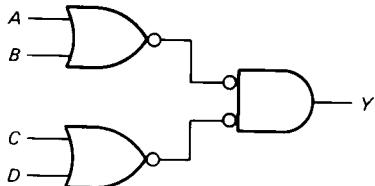

Fig. 3-29
- 3-12. What is the output in Fig. 3-29 if all inputs are low? If all inputs are high?
- 3-13.** How many words are in the truth table of Fig. 3-29. What is the value of Y for each of the following?
- 3-14.** Which ABCD input words does the circuits of Fig. 3-29 recognize?